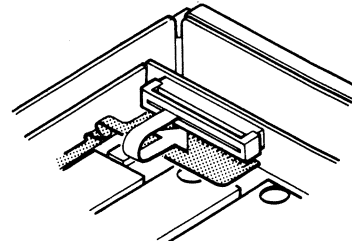

Fig. 2-1
2. As shown in the Fig. 2-1, disconnect the cable assembly from the main pc board, and keep it under the connector.